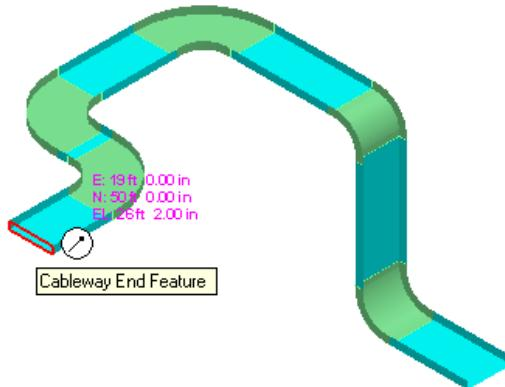

Figure 43: Cableway End Feature
32. Select the **Cableway End Feature** of the cableway placed earlier in this session, as shown in Figure 43.